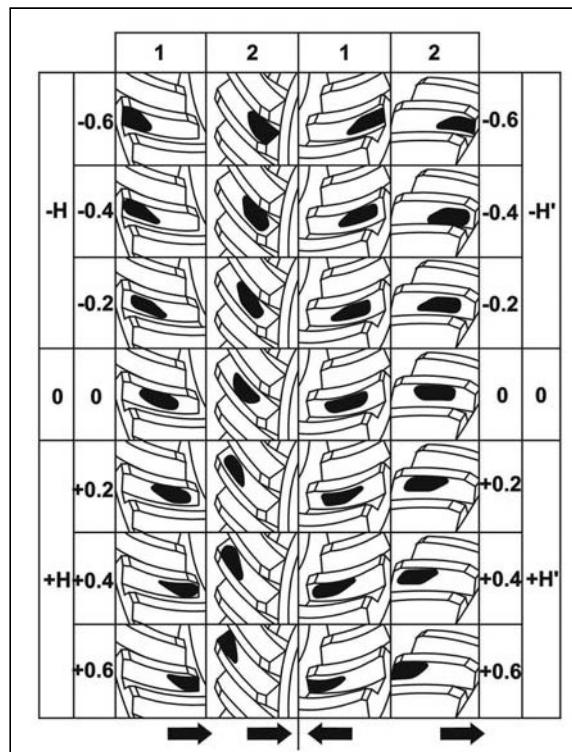

Fig. 7.172 Marking on the crown gear
6. First check the marking on the crown gear of the RH gearing (Fig. 7.172). In case that the mesh is incorrect (evaluate it according to a table) – move the pinion in mesh (+H) or out of mesh (-H) by a respective value by adding or removing the spacer washers under the bearing bushing to obtain a correct mesh. After each adjustment, check the backlash in the whole gearing of the axle final drive (**0.3 ± 0.5 mm**).